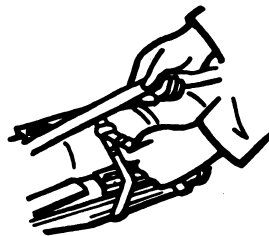

Figure 1
1. Unsnap the web strap holding the bipod (fig. 1).